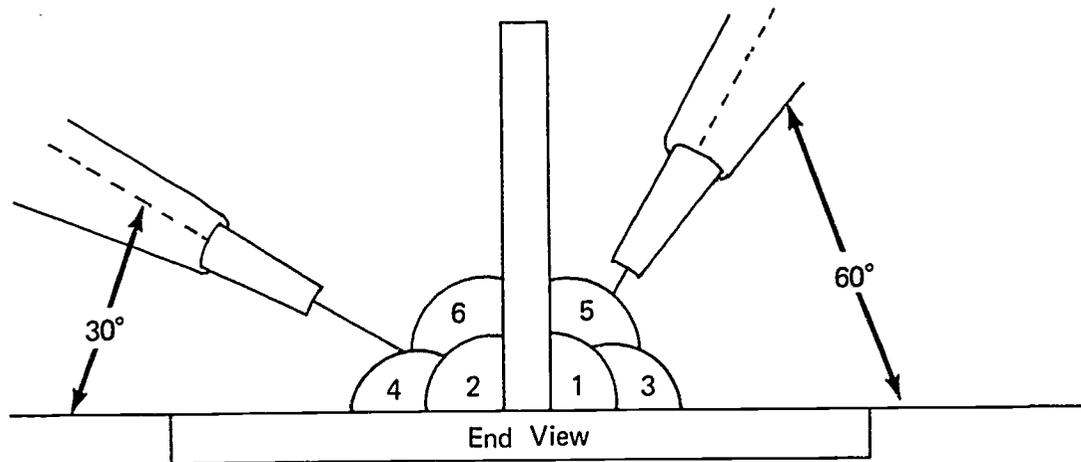

FIGURE 4
- H. Position gun at 60° angle to bottom plate for third and fourth beads and 30° angle to bottom for fifth and sixth beads (Figure 4)